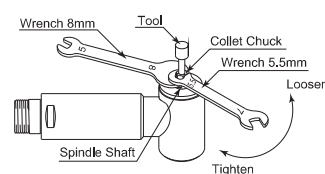

Fig. 3
- Remove the tool according to the section "5. CHANGING THE TOOL" procedure above. (Fig. 3)